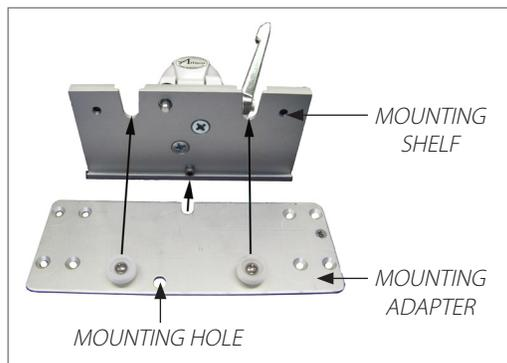
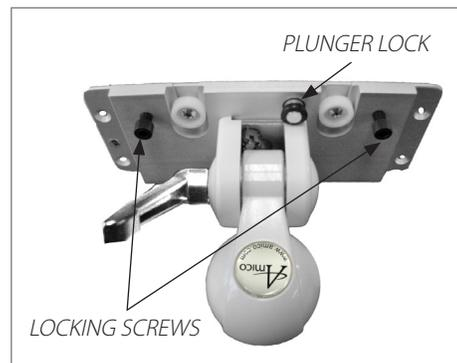

Figure 1
Figure 2
2. Lift the monitor and slide the *MOUNTING ADAPTER* on to the *MOUNTING SHELF*. Slide the monitor laterally until the mounting hole on the *MOUNTING ADAPTER* aligns with the plunger (**Figure 1**). When the hole and the plunger are aligned, the plunger will automatically lock. If the plunger does not lock automatically, lock the plunger manually by turning it. Tighten the locking screws by hand to the tightest possible position (**Figure 2**).